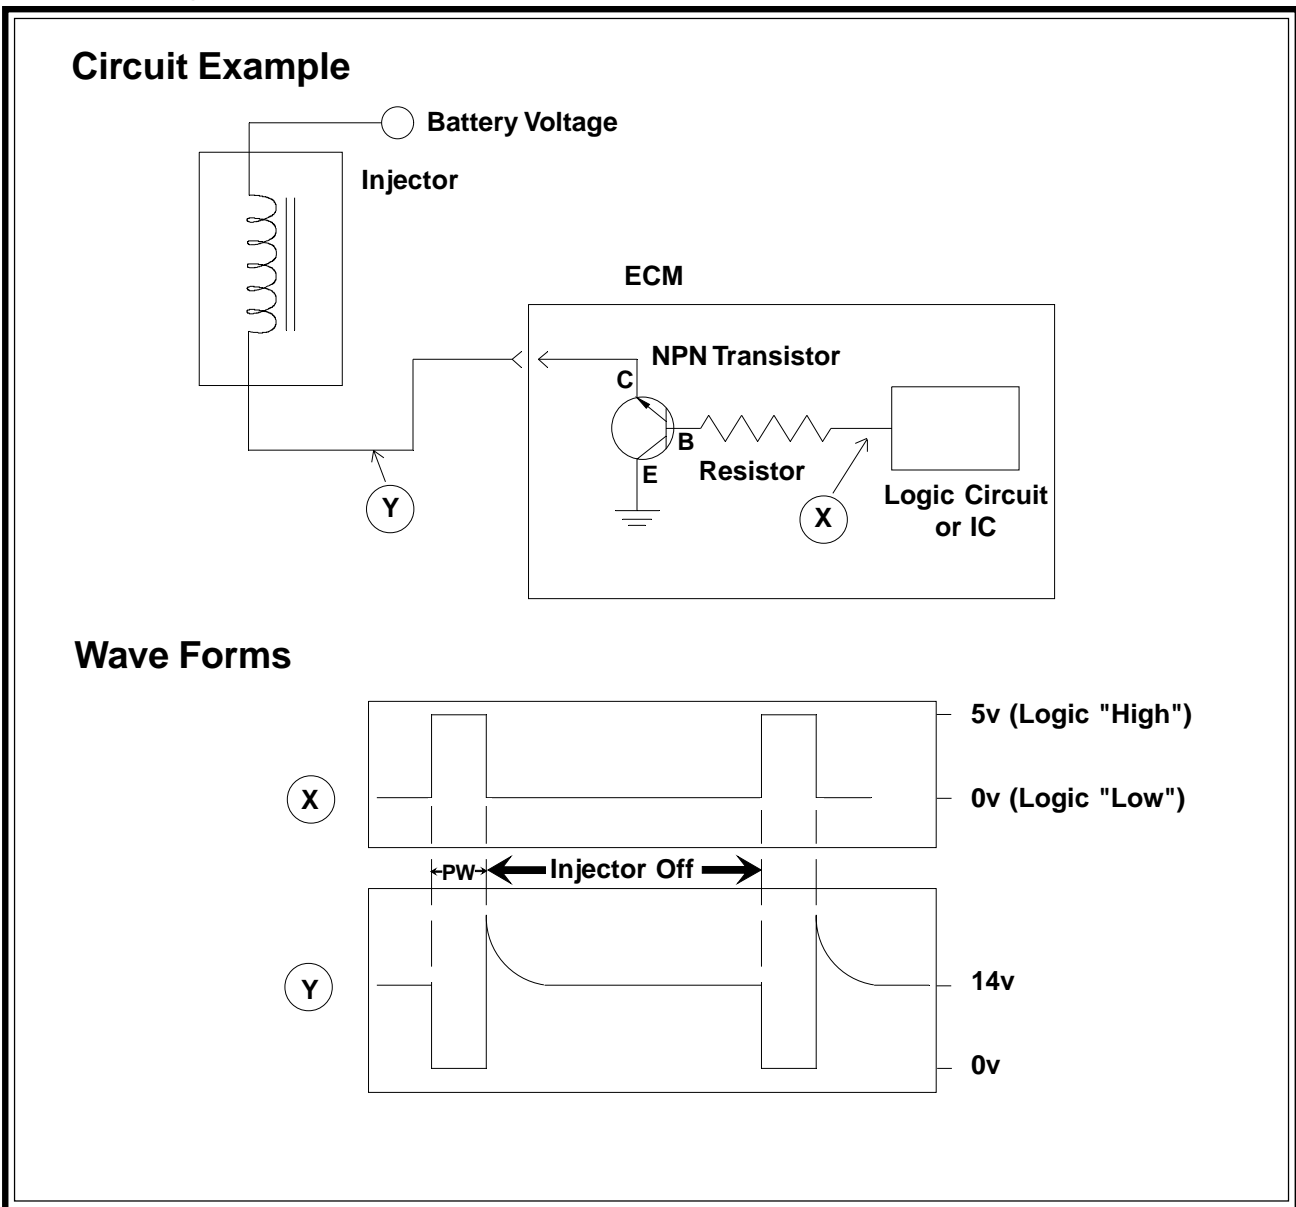

Figure 1
Figure 1 shows one of the more common configurations. There are variations of the circuit. The ECM's microprocessor calculates the necessary injector pulse width (PW) based on sensor inputs, then outputs a 'High' signal (signal X) to the injector drive transistor through a resistor. (The resistor limits current from the logic components to prevent chip damage in the case of other failed components, i.e. injector or transistor). When the 'High' signal is present on the base (B) of the transistor, it becomes fully saturated, so the collector (C) shorts to the emitter (E). This drives